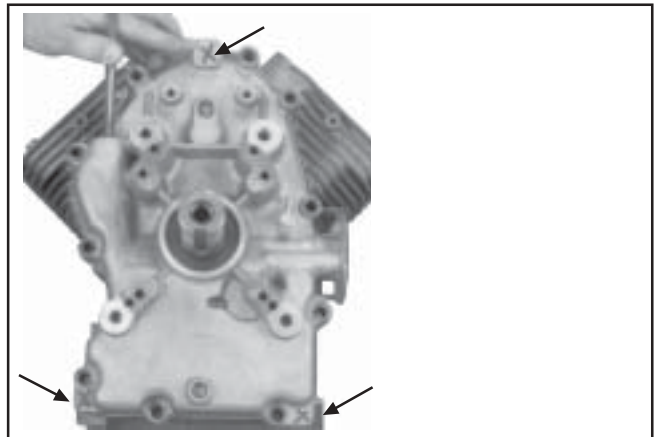

Figure 9-67. Location of Three Splitting Tabs.
2. Locate the three splitting tabs that are cast into the perimeter of the closure plate. Insert the drive end of a 1/2" breaker bar between the top splitting tab and the crankcase. Hold the handle horizontal and pull toward you to break the RTV seal. If necessary, pry at the bottom tabs also. See Figures 9-67 and 9-68. Do not pry on the sealing surfaces as this could cause leaks. Carefully pull closure plate from crankcase.